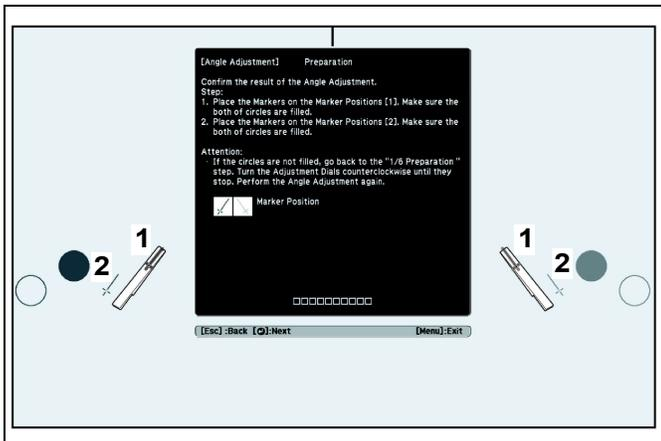

Figure 44
- Place the markers at the top marker positions (1). When angle adjustment is performed correctly, the upper circles become solid. (See Figure 44)